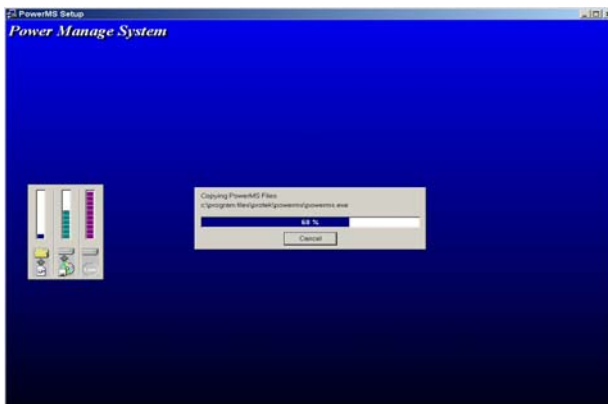

Fig. 3-7 The Installation window showing the files being installed
3.1.7 Generally, click “NEXT” and accept the default program folder. Please wait until the files are copied. Fig 3-7 displays the files being installed. The software installation is now complete.